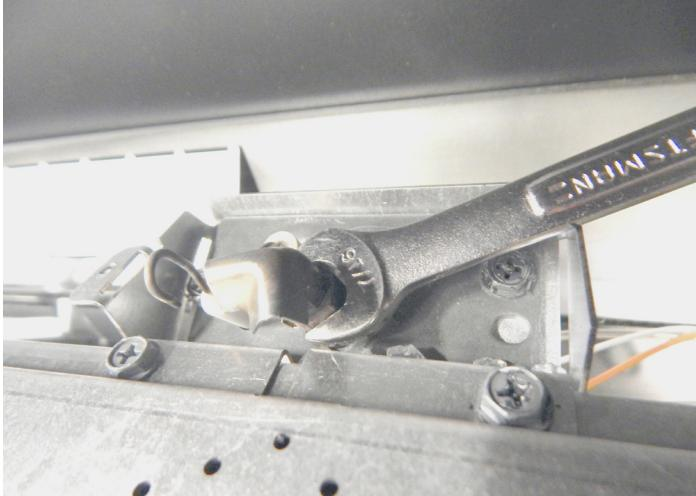
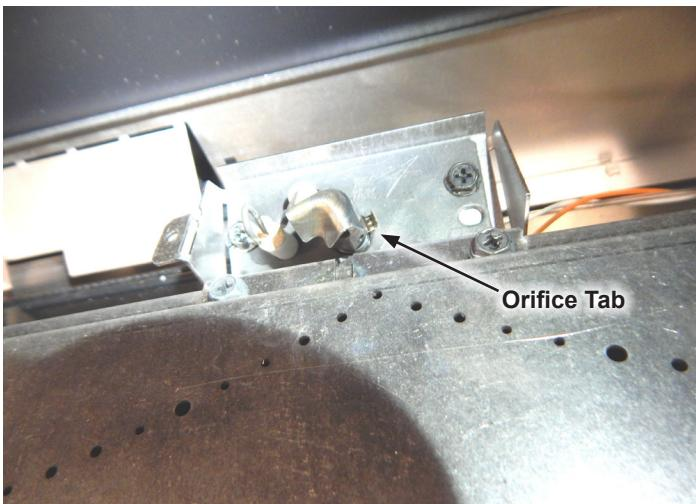

Figure 9
Figure 10
16. Re-install the (4) 5/16" Hex screws removed in step 10 above to secure the Burner assembly.
17. To convert the pilot from Natural Gas to Propane Gas, loosen the pilot hood assembly slightly using a 7/16" wrench. **See Figure 9.** Just below the pilot hood and nut is a small orifice tab that slides sideways. **See Figure 10.** A small screwdriver may be used to gently move the small orifice tab over to change the gas type. Do not force. The orifice tab has gas types stamped on the tab. Make sure the type of gas being converted to is indicated on the tab, then re-tighten the Pilot hood so that the hood flame directions point forward to the burner, and left to the sensor. Do not overtighten. **See Figure 9.**